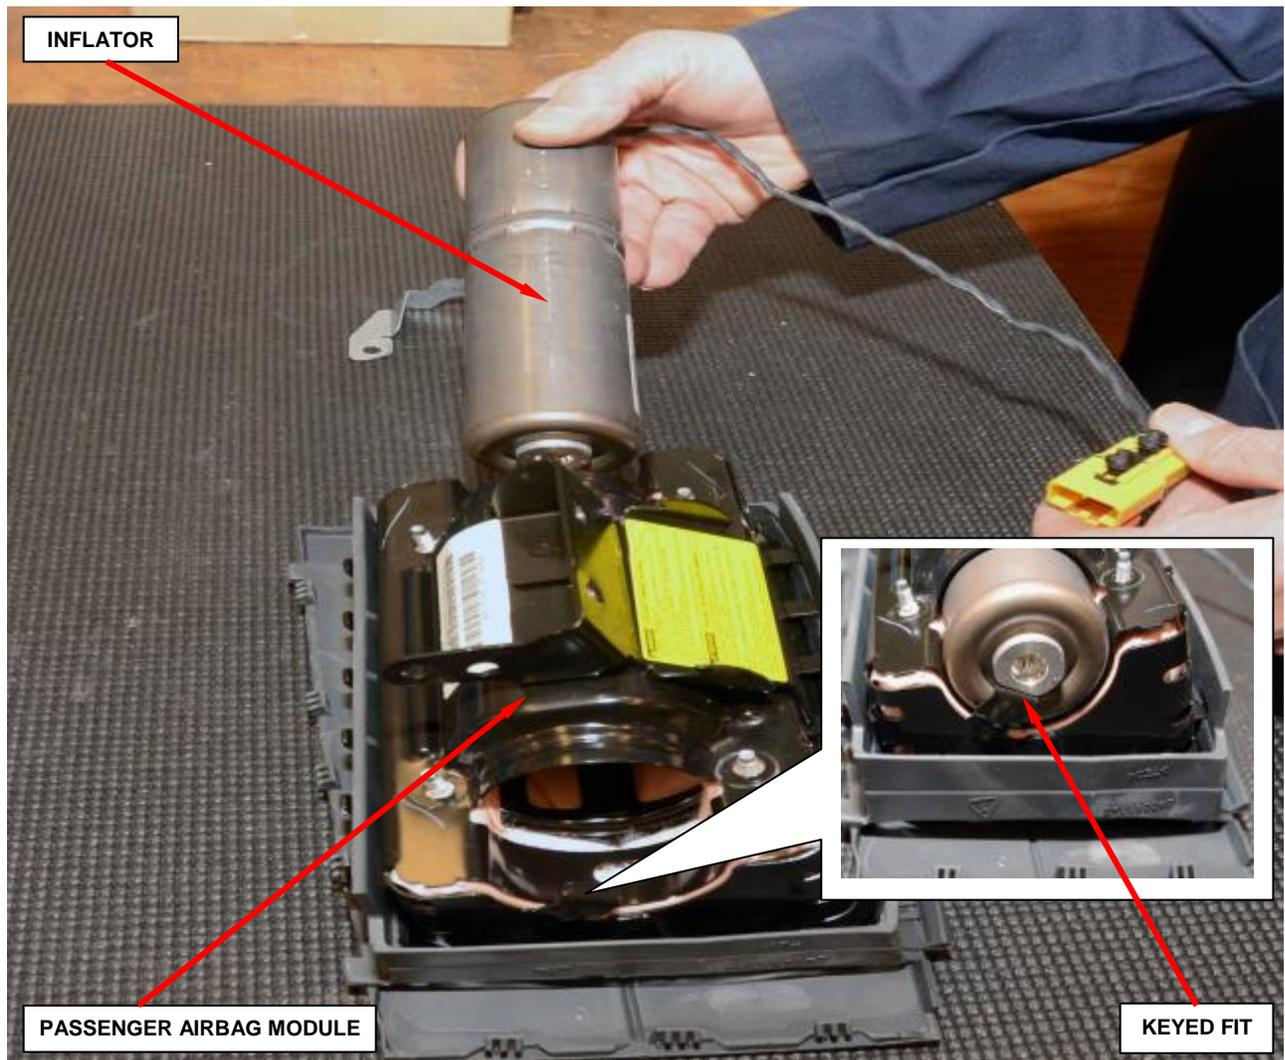

Figure 57 – Passenger Inflator Installation
g. Slide the new inflator into the passenger airbag module (Figure 57).
NOTE: The inflator is keyed to fit into the housing (Figure 57).